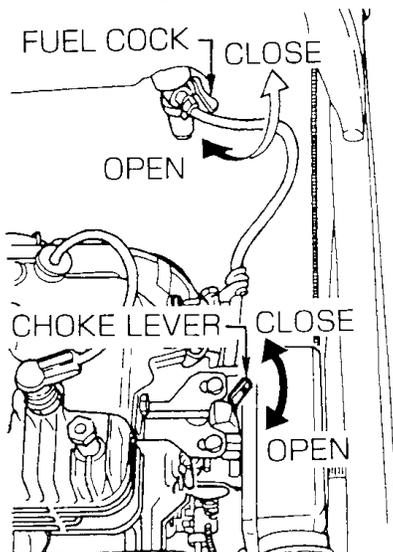
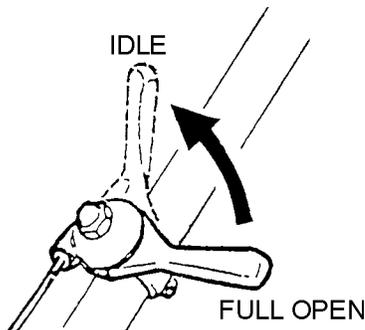

Figure 4. Fuel Cock and Choke Lever
Figure 9. Throttle Lever (Full Open)
1. Open the fuel shut-off valve by moving the **fuel cock** lever to the **open** position (Figure 4).
3. Close the choke lever (Figure 4) and move the throttle lever (Figure 9) to the "Full Open" position. Turning the choke lever 90 degrees clockwise closes the choke. In cold weather, start the unit with choke fully closed. In warm weather or when the engine is warm, the unit can be started with choke halfway or completely open.
5. If engine fails to start, move the choke lever (Figure 4) to the half open position to avoid flooding.
- To start the rammer tamping action, move the throttle lever (Figure 9) quickly from **IDLE** (close) to the **FULL OPEN** position. **DO NOT** move the throttle lever slowly as this may cause damage to the clutch or spring.
- Close the fuel shut-off valve by moving the fuel cock lever to the **CLOSED** position. See Figure 4.